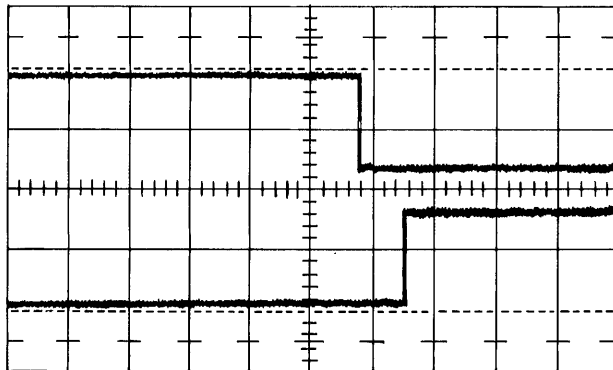

Figure 5-60. Rack-End Limit Microswitch Check
- a. Monitor output of rack-end limit microswitch and ONRACK flip-flop (see Figure 5-60).